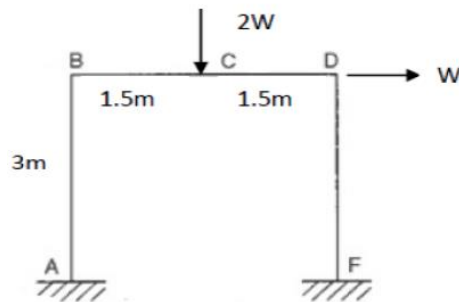

Figure 3
8. Calculate the collapse load for frame as shown in the Figure 3 [12M]